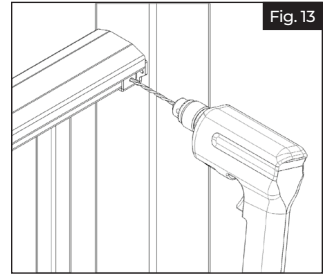

Fig. 13
- b. Using a  $\frac{5}{32}$ " drill bit, predrill the top rail in the two locations on the metal bracket. Install #10 x1" screws in pre drilled holes of each of the metal brackets (Fig 13).